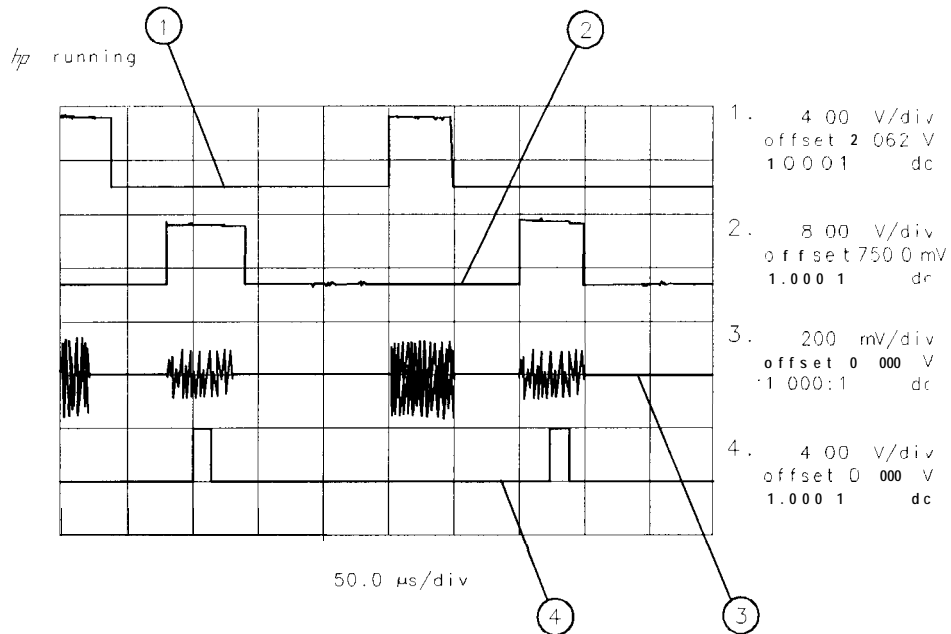

Figure 4-26. Placing the Gate Output During the Second Signal
- To view the second signal, change the gate delay so that the gate output is under the second signal. Since the second signal had a signal delay of approximately  $85 \mu\text{s}$ , we set the gate delay to  $85 \mu\text{s}$  plus the pulse width/2, or  $110 \mu\text{s}$ . Press **[SWEEP]**, Gate Control , GATE DELAY 110 **[ $\mu\text{s}$ ]** to set the gate delay to  $110 \mu\text{s}$ . Using an oscilloscope can be helpful in placing the gate output during the pulsed signal (see Figure 4-26).
Item	Description of Items in Figure 4-26